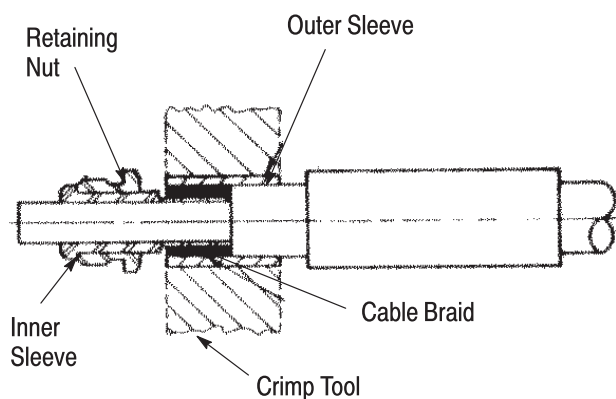

Figure 3
2. Position the loose unit on the dielectric as shown in Figure 3.